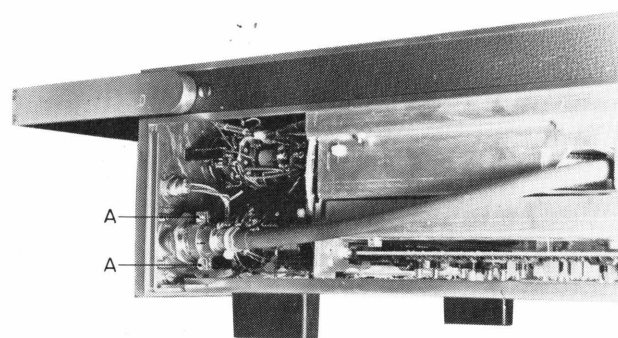

Fig. IX-12 Access to the trigger take-off transformer
R. GAINING ACCESS TO THE TRIGGER TAKE-OFF TRANSFORMER T3A-B (Fig. IX-12)